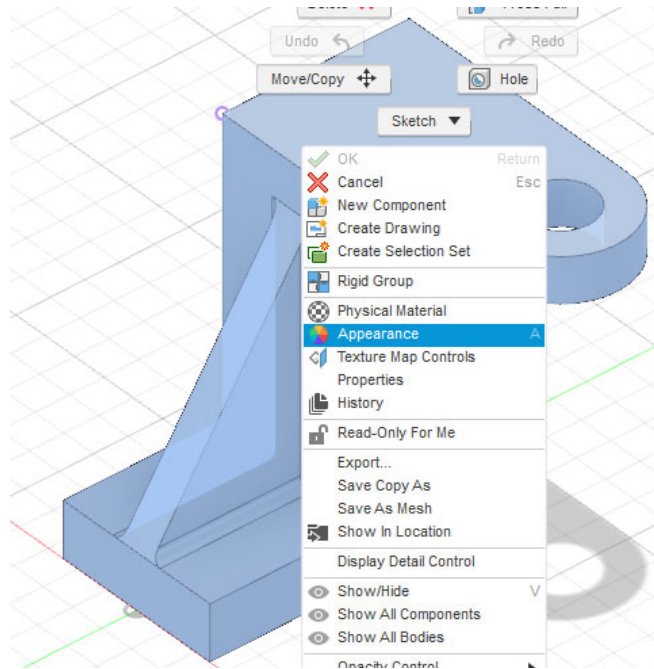

Fig. 13: Material Selection
18. Right click of the body and select “Appearance”. See Fig. 13.